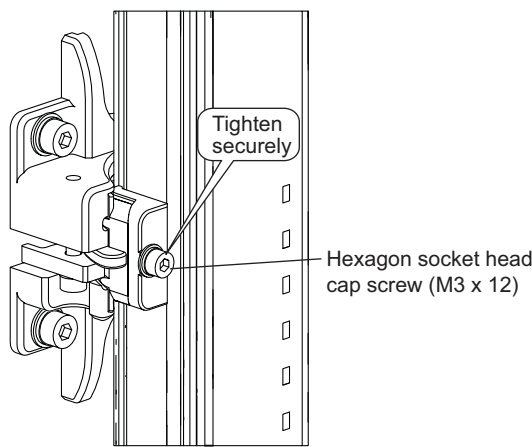

Figure 20
- Tighten the hexagon socket head cap screw (M3 x 12) of Intermediate Bracket (1) with the tightening torque at 0.54 N•m (recommended). (Figure 20)